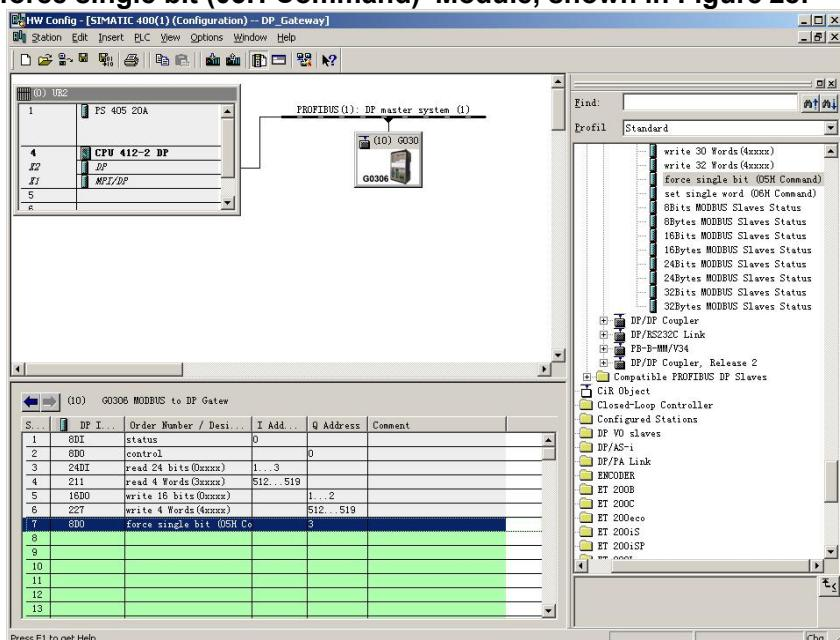

Figure 28 Add "force single bit (05H Command)"Module
a) Add "force single bit (05H Command)"Module, shown in Figure 28: